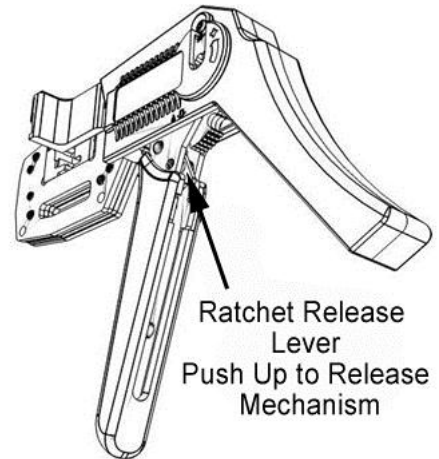

Figure 3
**CAUTION:** Should a terminal become stuck or jammed in a partially closed position, DO NOT use force to open or close the handles. The tool will easily open by pushing the ratchet release lever up (Figure 3).